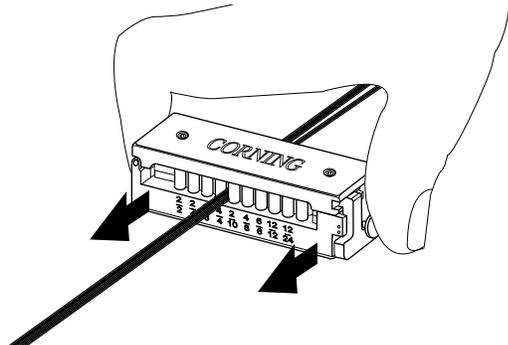

Figure 20
6.6 If appropriate for your installation, divide the ribbon(s) using the RST-000 too as described in SRP-004-098 (Figure 20).